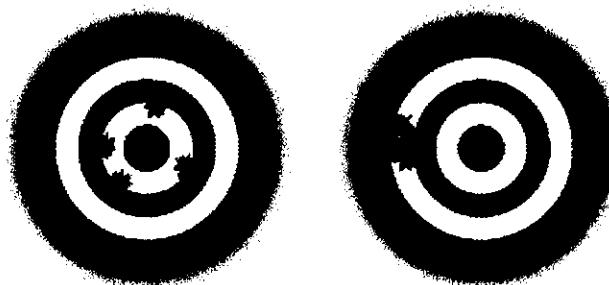

Figure A1(a) / Rajah A1(a)
- CLO1 (a) By referring to Figure A1(a), explain between basic instrument parameter of accuracy and precision.